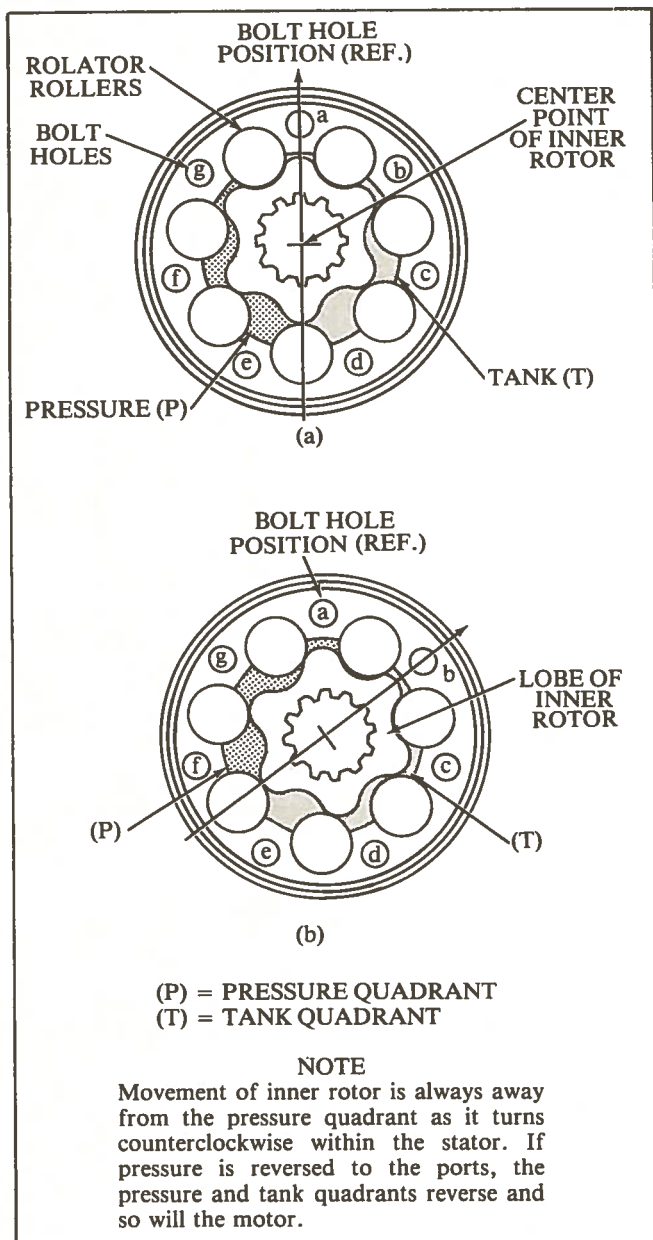

Figure 3. Gerotor/Rolator Operation.
During the following discussion of unit operation, refer to Figure 3. The large arrow shown in both views indicates the effective centerline of the rotating valves' position which determines the pressure (P) and tank (T) quadrants.
The pressure in Figure 3(a) will move the bottom of the inner rotor toward the right side of the page, rotating the inner rotor counterclockwise. This causes the inner rotor to orbit in a clockwise direction through each lobe position (a through g). Figure 3(b) shows the second lobe position (b) and the new pressure and tank quadrant position. As you can see, pressure will force the inner rotor toward the (c) lobe position when the rotor lobe is located in the (b) position. The inner rotor must go through six clockwise orbits for one counterclockwise rotation of the output shaft.